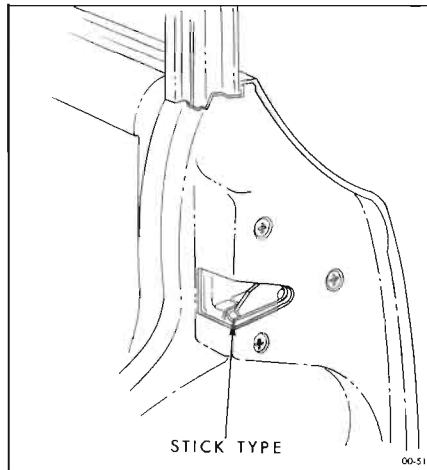

Figure 00-51—Door Lock Striker Bolt
- Door Lock Striker Bolt - Stick Type Lubricant. See Figure 00-51.